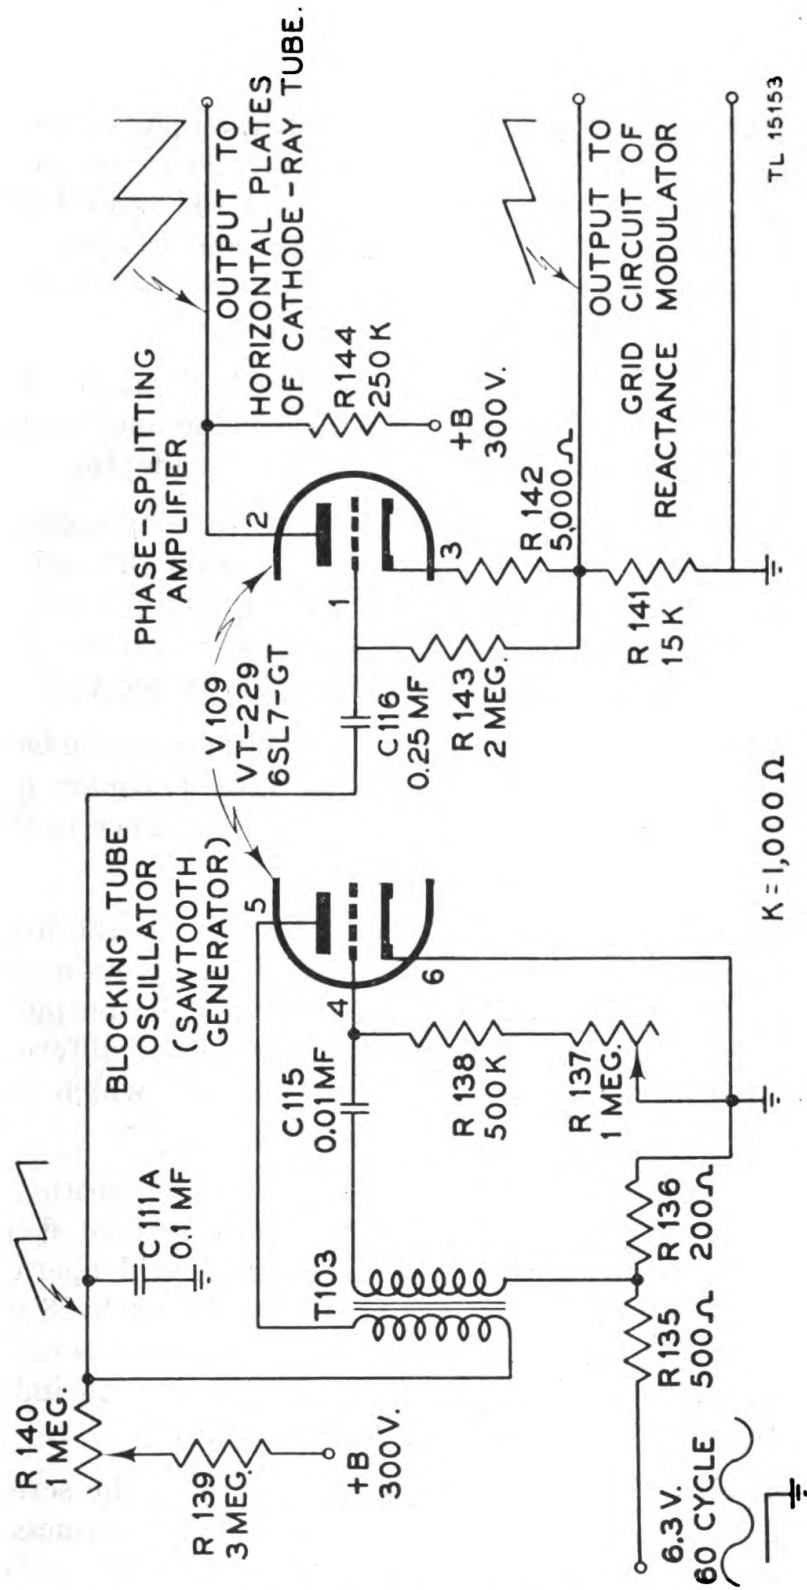
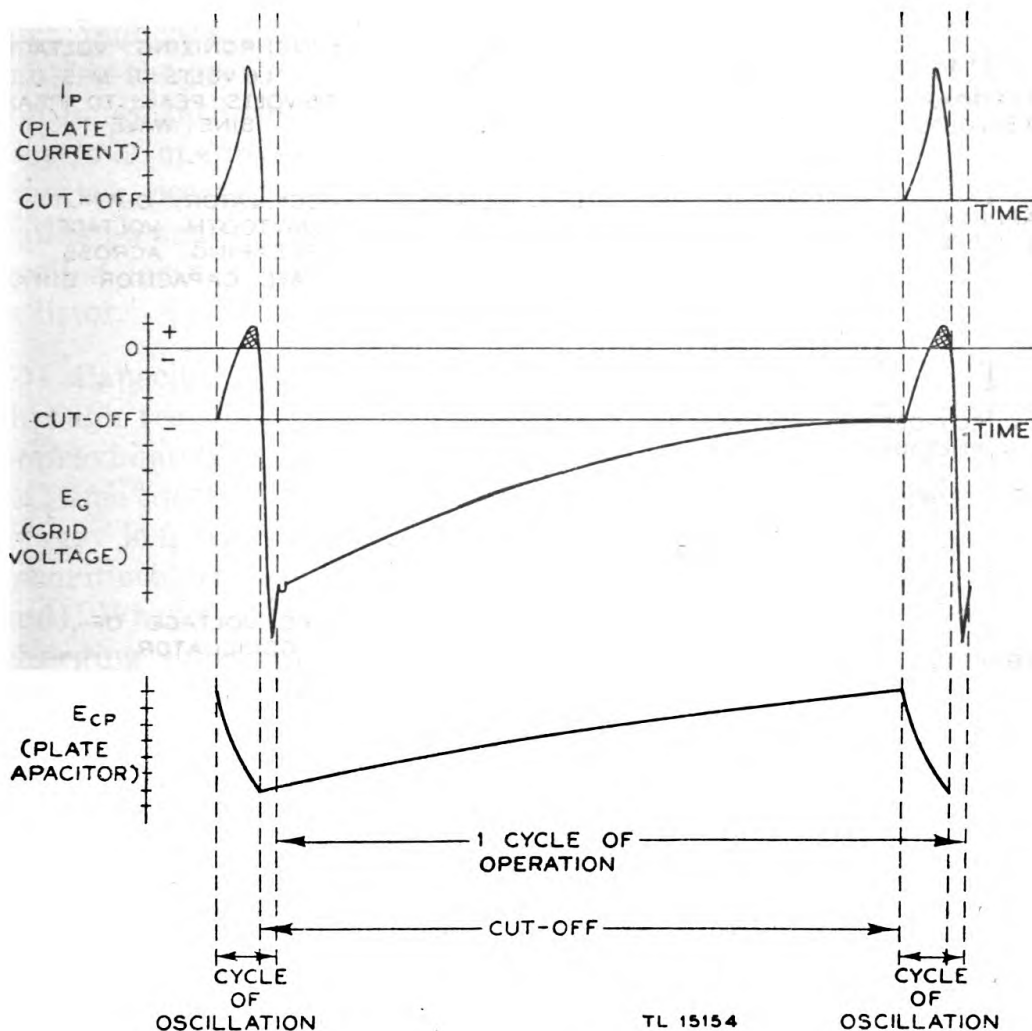

Figure 14. Simplified schematic diagram of blocking oscillator and amplifier.
Figure 15. Theoretical current and voltage waveforms of blocking oscillator.
Figure 14 shows a simplified schematic diagram of the saw-tooth generator which consists of a blocking oscillator and a phase-splitting amplifier. Waveforms of voltages resembling those obtainable by the use of a test oscilloscope are shown at various
(1) The saw-tooth generator of the adaptor uses a single-swing blocking oscillator whose output is taken off across a capacitor C111A in the plate circuit. An external 60-cycle, a-c voltage is injected into the grid circuit to synchronize the recurrence frequency at a submultiple of the frequency of the power source. This type of oscillator is known as a single-swing oscillator because the plate current of the tube is cut off at the completion of one cycle of oscillation.
(2) Theoretical curves of voltage and current (theoretical representations) are shown in figure 15 to help clarify the operation of the oscillator circuit shown in figure 14. The circuit consists of a transformer-coupled feedback oscillator, with capacitor C115 in series with one of the grids of V109. This tube is a dual triode. *Disregarding the 6.3-volt, a-c synchronizing voltage for the time*
b. Phase-splitting Amplifier. The output saw-tooth voltage of the oscillator is coupled to the grid of the amplifier through capacitor C116. This amplifier has two output voltages as illustrated in figure 14.
(1) Any ordinary vacuum tube used as a conventional amplifier has an output of opposite polarity to the input. In other words, a positive-going voltage on the grid produces a negative-going voltage at the plate, and vice versa. However, in most applications of the vacuum tube, the output voltage at the plate has an amplitude greater than that of the input voltage.
(2) The phase-splitting amplifier used in the panoramic adaptor employs a circuit which converts a single input voltage to a double output; one output being the normally amplified and inverted voltage at the plate, and the other output being a voltage of the same polarity and waveshape, but having slightly less amplitude than the input voltage. This output is taken from a tap on the cathode resistor and is developed in the following manner: